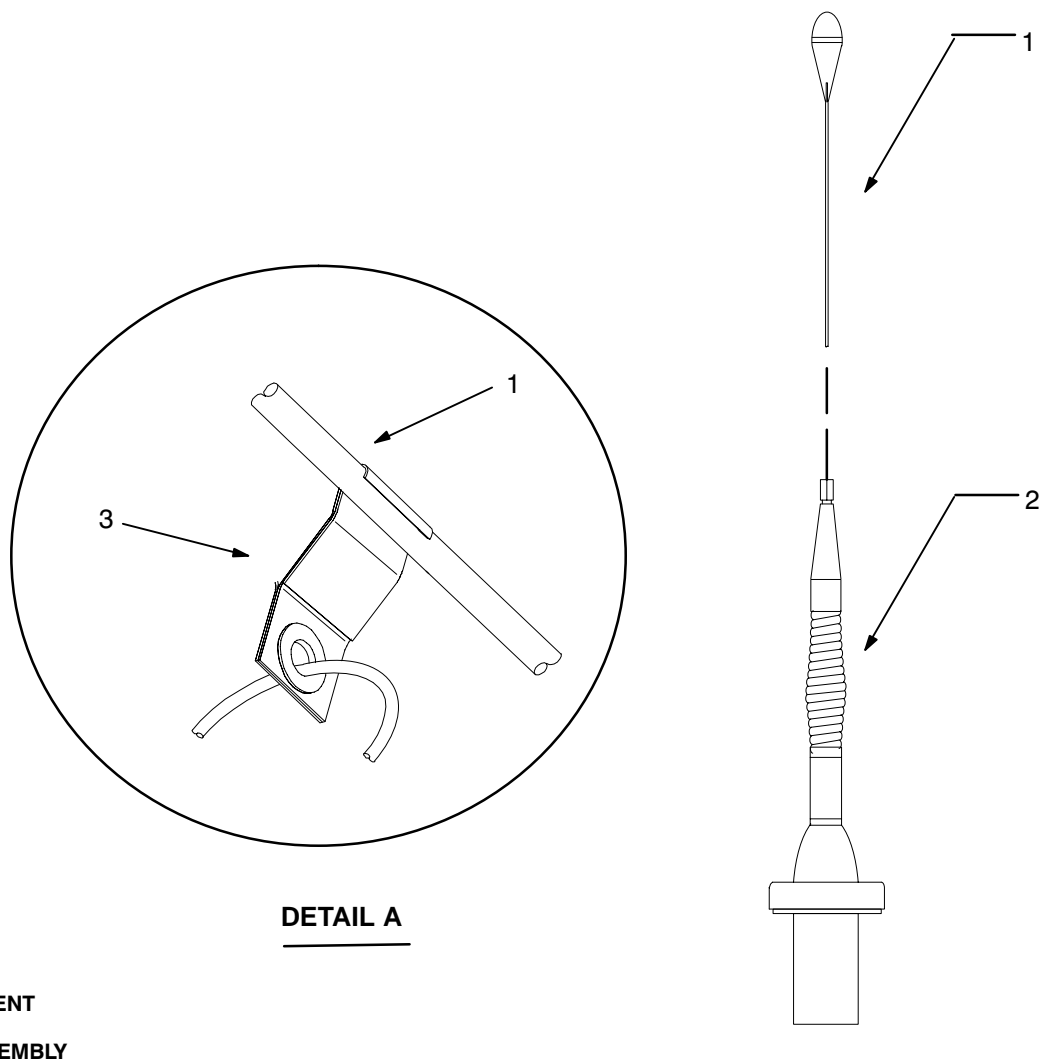

Figure 5-3. Top Antenna Assembly Installation
a. Antenna elements (1).	Install and secure to antenna base (2).
b. Wire rope assembly (3).	Attach clip to antenna element (91). Tie rope to vehicle to position antenna in desired location. See Figure 5-3, Detail A.